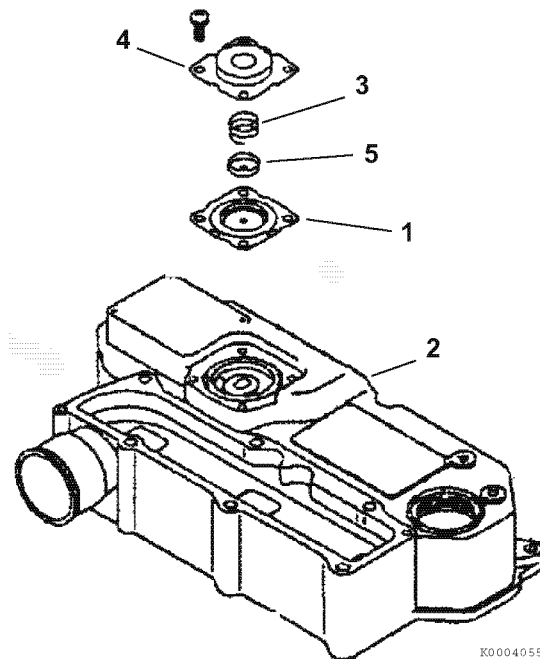

Figure 5-16
The non-turbo TNV engines use a crankcase breather system that has a spring-backed diaphragm (Figure 5-16, (1)) in the valve cover (Figure 5-16, (2)). When the crankcase pressure reaches a predetermined value, the diaphragm opens a passage that allows crankcase fumes to be routed to the intake manifold.
To inspect the diaphragm and spring (Figure 5-16, (3)):
1. Remove the bolts retaining the diaphragm cover (Figure 5-16, (4)).
2. Remove the diaphragm cover, spring, diaphragm plate (Figure 5-16, (5)) and diaphragm.